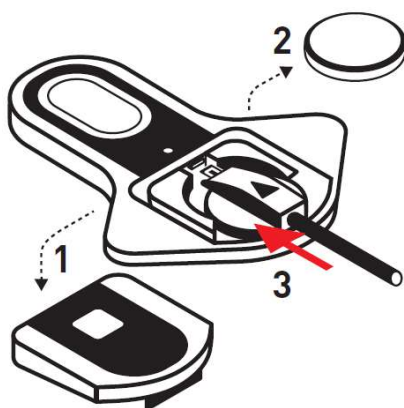

Figure 13 – Connect the Download Cable
Connect the device plug of the download cable to the socket (Figure 13) of the device (3).